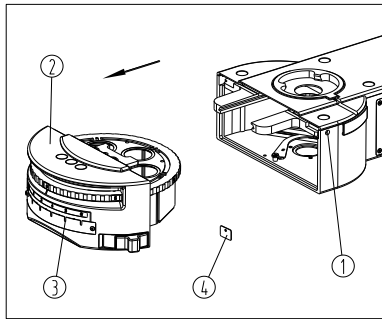

Fig.29
- (1) Loose the right side lock screw ① of the turntable fluorescence illuminator, with a M4 inner hexagon spanner, and pull the front cover group ② out of the dovetail groove. (See Fig. 29)